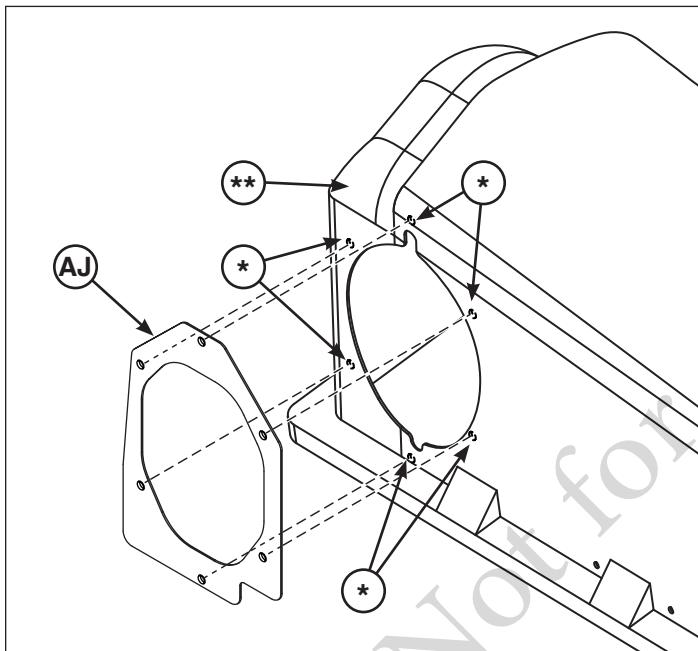

Figure 25
1. Use flange seal (AJ, Figure 25) as a template to drill six 13/64" holes (*) on grass catcher cover (**).